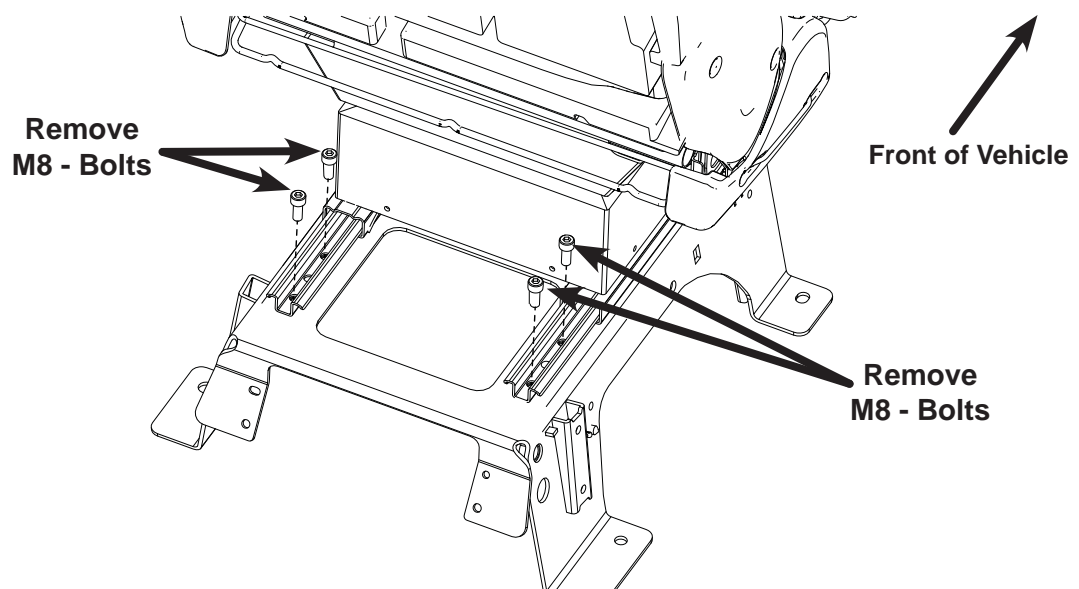

Fig. 8
11. Remove and discard (4) M8, Socket Head Bolts, using 6mm Hex Bit and Ratchet See Fig. 8